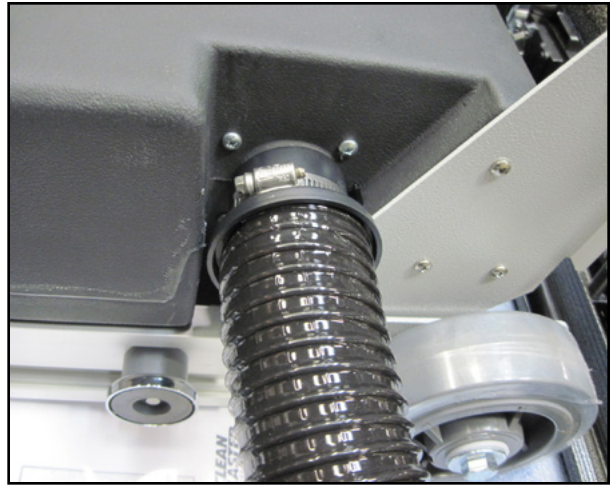

Figure 8. Attach Other End of Hose to Housing Assembly
11. Attach the vacuum hose between the housing assembly and the cleaning nozzle. The hose connector with the shorter end should be connected to the cleaning nozzle assembly. The hose connector with the longer end is connected to the housing assembly (see Figure 8) and should be secured by tightening the clamp.